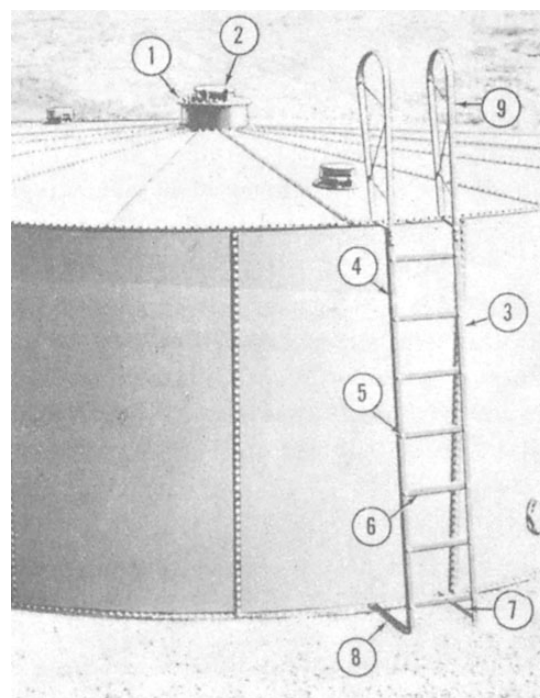

Figure 9-21.—Outside ladder installed.
**MANHOLE COVER—** If this tank is used for water storage, omit the emergency vent valve (fig. 9-21). Install the manhole cover with the blind flange hatch set after installation of the manhole air intake.
Install a 30 bolt hole gasket on the top flange of the dome. Insert 1/2- by 1 1/2-inch bolts through the flange and gasket, in that order. The gasket will hold the bolts in place. Install a 30 bolt hole manhole cover (fig. 9-21, #1) over the bolts. Install the gasket, the washer, and the nut on all of the bolts. Install the washer and the nut as above. Tighten the bolts.
Place the manhole cover gasket over the bolt holes at the opening in the cover (fig. 9-21, #1). Insert 1/2- by 1 1/2-inch bolts through two bolt hole channels. Work through the 10-inch hole and insert the bolts through the cover and the gasket. Install the vent valve (fig. 9-21, #2) over the bolts. Apply the nuts to the bolts. Tighten the bolts.
Place the left side ladder section and the right side ladder section with similar bolting legs facing each other on top of several pieces of blocking of sufficient length to support both sections and spaced wide enough apart to install a ladder step (fig. 9-21, #6).
Place the assembled ladder where it is convenient to thief and vent at the outer perimeter of the deck. Lift the ladder and set the end bolt holes of the braces (fig. 9-21, #7 and #8) over the bolts in the bottom chime of the staves. Mark the bolts. From the top of the temporary ladder, mark the bolts in the outer perimeter of the deck covered by rails. Set the outside